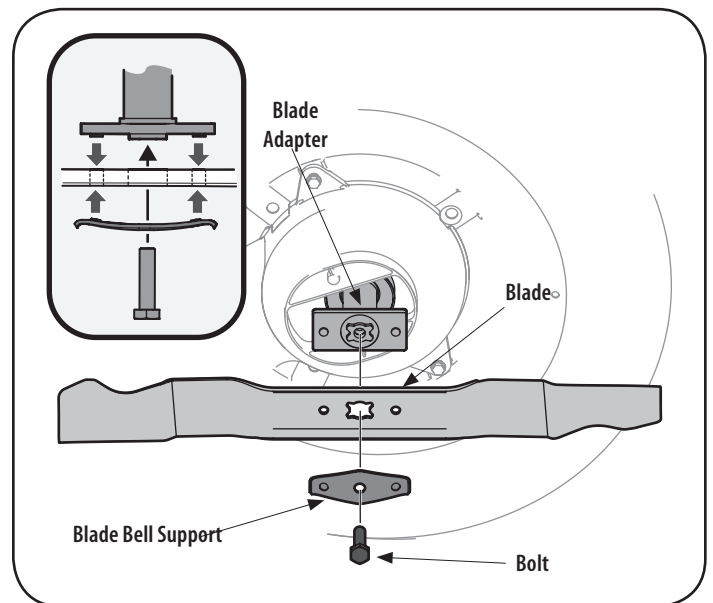

Figure 25
2. Remove the bolt and the blade bell support which hold the blade and the blade adapter to the engine crankshaft. See Figure 25.
5. Lubricate the engine crankshaft and the inner surface of the blade adapter with light oil. Slide the blade adapter onto the engine crankshaft. Place the blade on the adapter such that the side of the blade marked "Bottom" (or with part number) faces the ground when the mower is in the operating position. Make sure that the blade is aligned and seated on the blade adapter flanges. See Figure 25 inset.